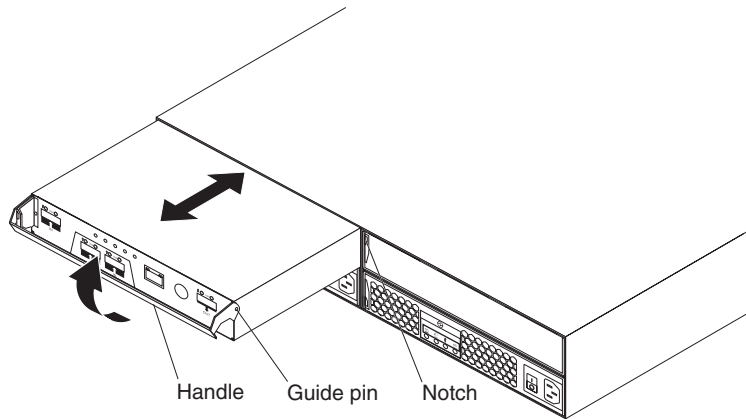

Figure 56. Installing a controller
- b. Slowly pull the handle away from the chassis to remove the filler panel from the bay, as shown in Figure 56.
- b. Make sure that the guide pins on the side of the controller fit into the notches on the DS3400 chassis. See Figure 56.